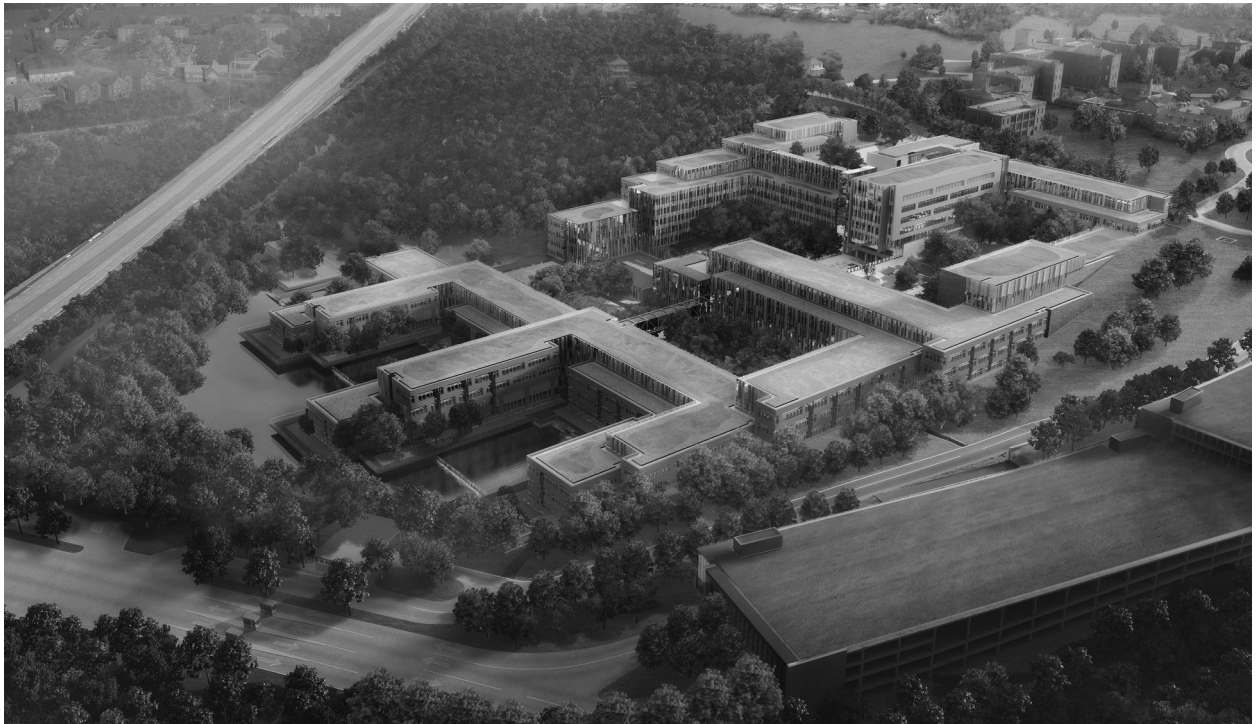

Figure 4.15 Exterior rendering—U.S. Coast Guard headquarters. © 2009–2010, Perkins + Will, all rights reserved
**RN:** Someone asked me: Do you need BIM to do IPD? No. You can do IPD without any of those things. BIM enhances collaborative work processes. BIM takes it to another level. But I don't think it's foundational. You have to have a will to collaborate. If you don't have a will to collaborate, you're not going to—and I don't care what technology you throw at it. When we hire, we talk a lot about chemistry, with IT people as well as with the local office. We don't always get it right. It's not always about collaboration, but if there's not good chemistry, the likelihood of good collaboration is pretty low. (See Figure 4.15.)